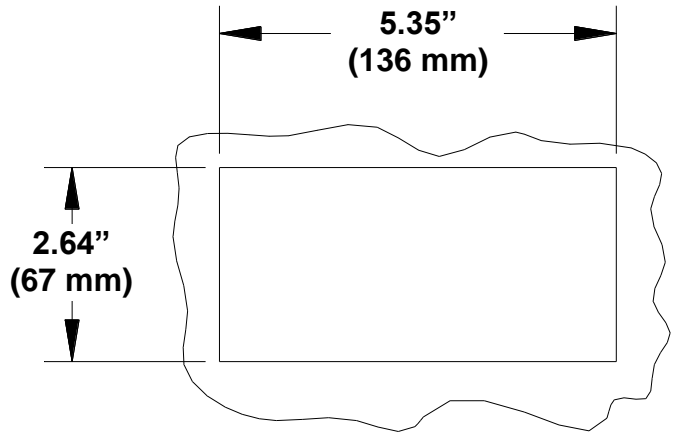

Figure No. 1
2. Carefully lay out the mounting hole in the panel or wall, and then cut out an opening, referring to Figure No. 1 for the cutout dimensions.